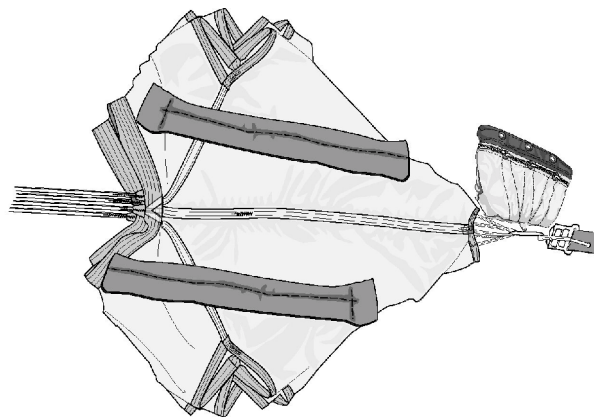

Figure 7. Flaked Panels
d. Insert tension hook into packing table. Attach drogue bridle strap to tension hook. Apply light tension to the drogue bridle strap to hold in place (Figure 7).
- g. Hold in place with shot bags (Figure 7).